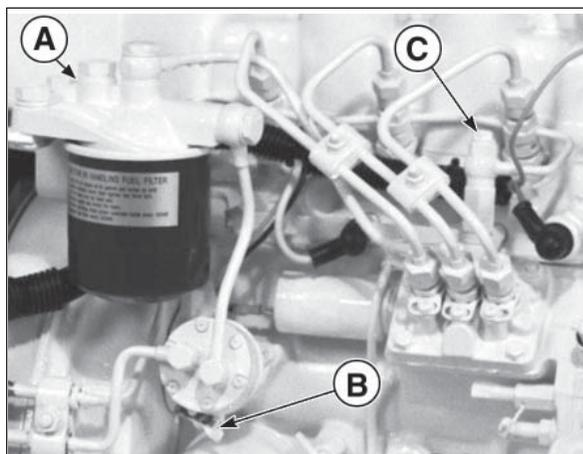

Figure 11-A: M673 Fuel System.
2. Loosen bleed screw "A" (Figure 11) on top of the filter. Pump hand primer "B" on fuel lift pump until pure fuel (no bubbles) escapes from bleed screw "A". Tighten bleed screw "A".